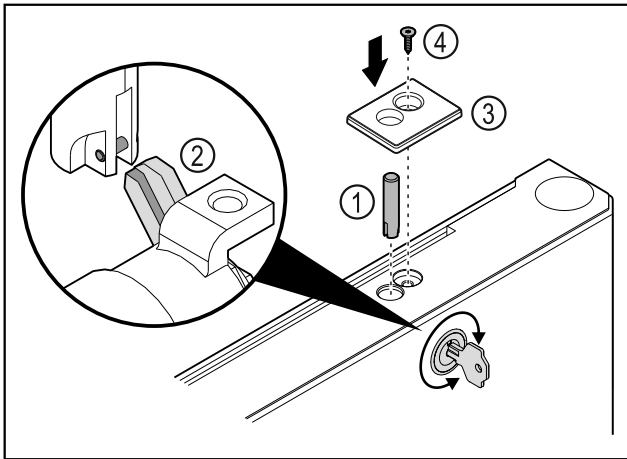

Fig. 47
- Put in the lock bolt Fig. 47 (1).
- Turn the lock slightly so that the lock bolt Fig. 47 (2) engages in the slot of the lock.
- Put in the cover Fig. 47 (3).
- Insert the screw Fig. 47 (4).